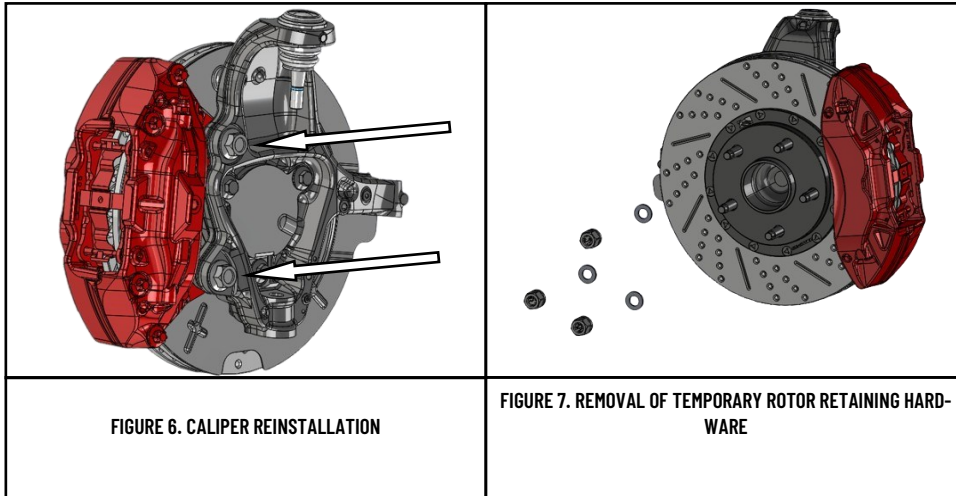

FIGURE 6. CALIPER REINSTALLATION
2. Carefully reinstall the caliper to the knuckle using the existing hardware removed in step 3 on the previous page (Figure 6).